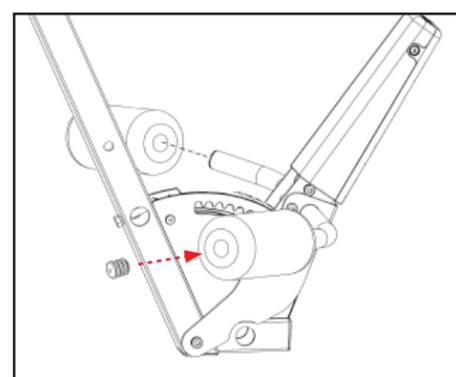

Figure 14
- Slide the Foam Rollers over each side of the Ankle Bar (Figure 14). Use a twisting motion to ease the process.
- Insert the Black Plugs into both ends of the Ankle Bar (Figure 14).